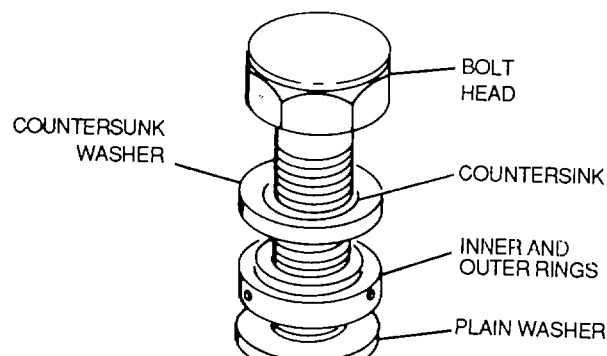

Figure 8-32. Installation of Preload Washer on a Bolt
(2) Installation of preload washer on a bolt. To install preload washers on a bolt, see figure 8-32.